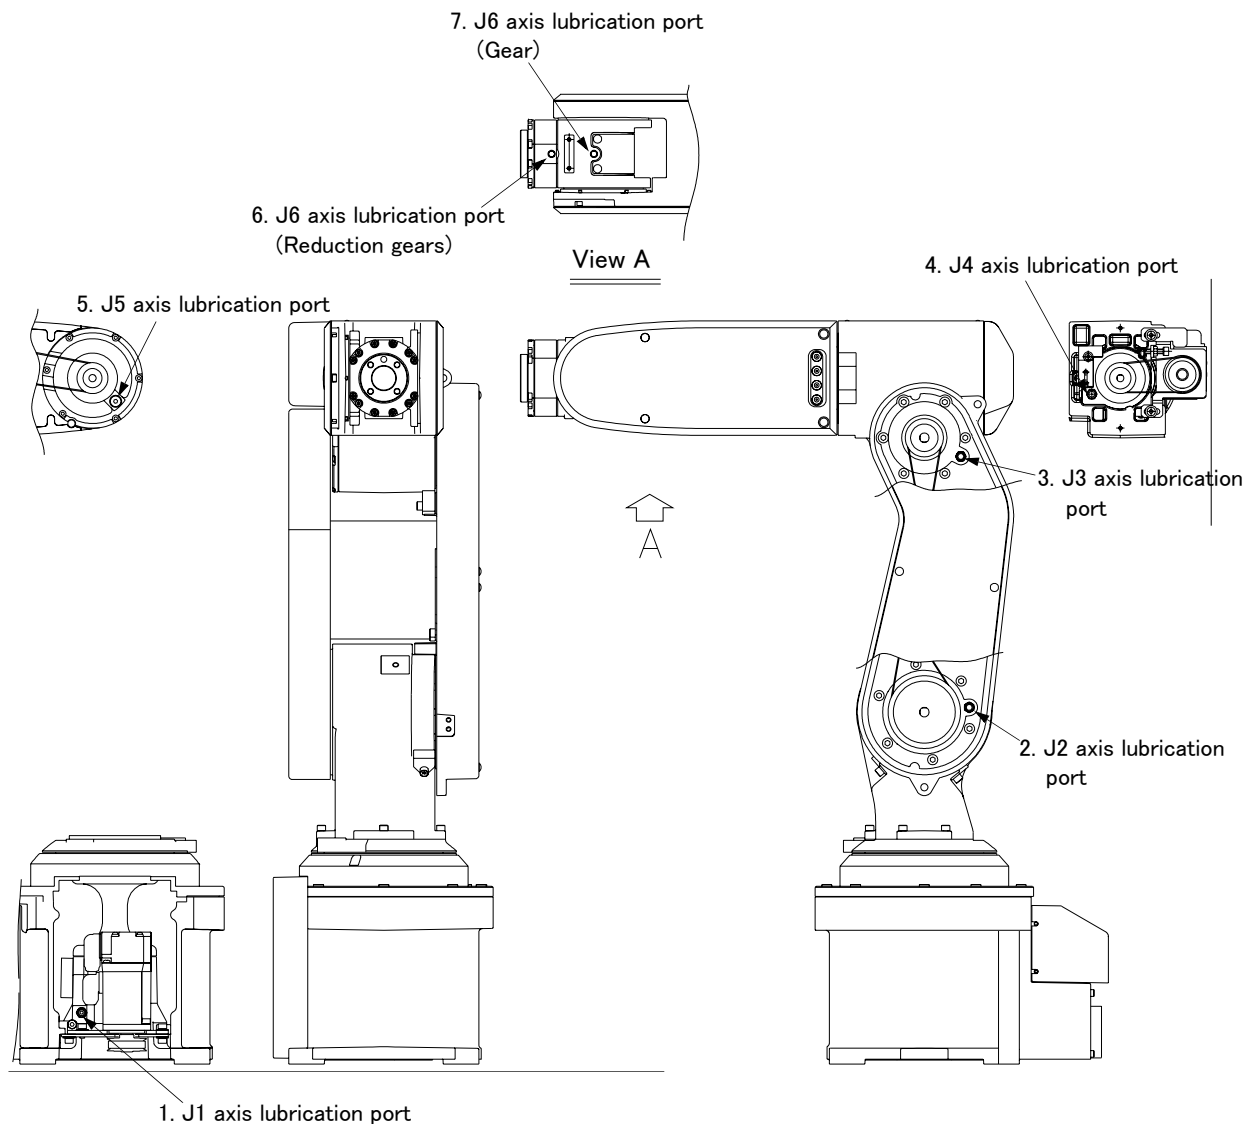

Fig.5-14 : Lubrication positions
- The numbers in the Table 5-4 correspond to the supply positions in Fig. 5-14.
(2) Lubrication method